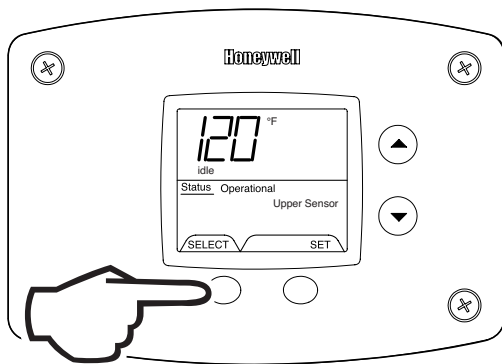

Fig. 57
2. For water heaters using two temperature sensors, pressing the 'Select' button again displays the Upper Sensor temperature reading. 'Upper Sensor' will be displayed in the lower right side of the status window of the water heater display (Fig. 57).